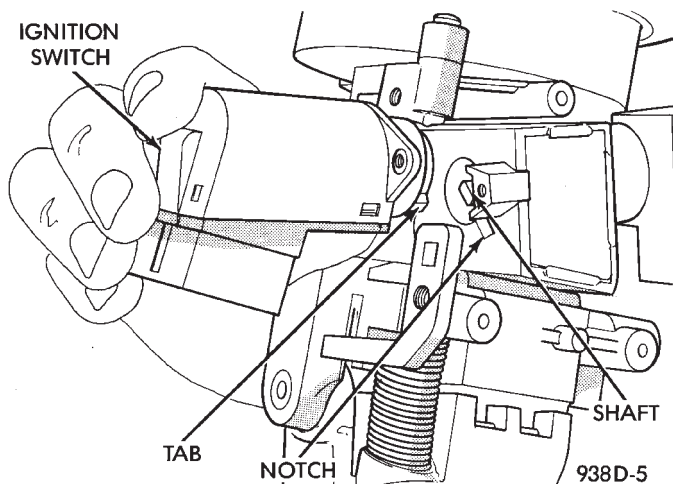

Fig. 48 Ignition Switch Alignment
- (1) A tab on the ignition switch indexes to a notch in the lock cylinder housing (Fig. 48). Also, a slot in the end of the ignition switch fits over the shaft in the end of the lock cylinder housing. Use the ignition key to rotate the lock cylinder to align the ignition switch with lock cylinder housing.
- (2) Install and tighten ignition switch mounting screws.
- (3) Attach electrical connector to ignition switch.
- (4) Install multi-function switch.
- (5) Install upper and lower cover on steering column.
- (6) Install tilt lever.
- (7) Connect negative cable to battery.